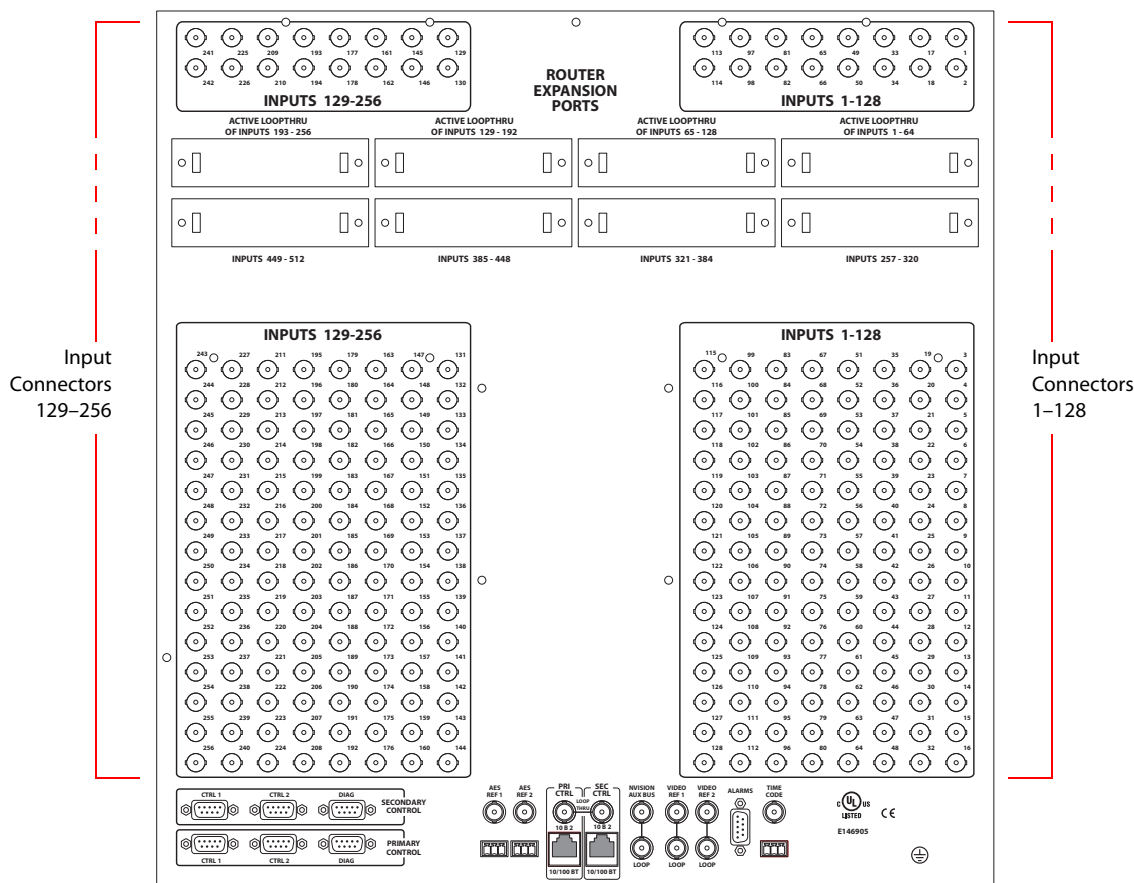

Figure 3-5. BNC Connector and Signal Connections
- 1 Locate the *input* connections at the rear of the router, as shown in Figure 3-5. There are 16 columns of 16 BNC connections each.
- 4 Locate the *output* connections on the rear of the router, as shown in Figure 3-5. There are 16 columns of 16 BNC connections each.